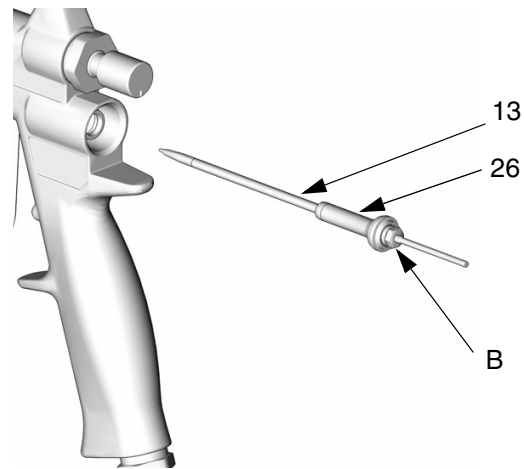

FIG. 38
4. Lubricate the outside of the new air valve assembly (26) and place it on the fluid needle (13), against the nut (B). See FIG. 38.
5. Install the fluid needle (13) and the air valve assembly (26) into the back of the gun.